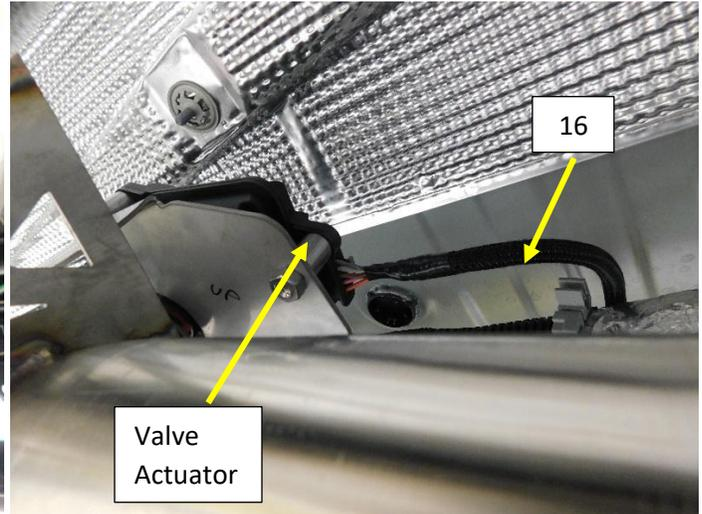

Figure.21
25. Run the harness along the top of the frame and up to the exhaust valve actuator. plug the harness into the valve actuator and lock the latch. **Fig.21**